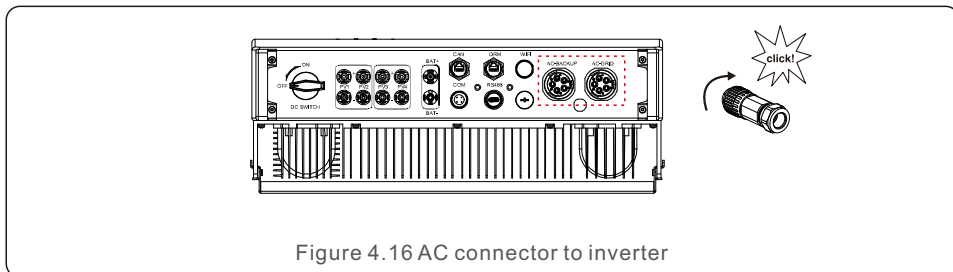

Figure 4.16 AC connector to inverter
C) Connect AC connector with inverter, then tighten AC connector for clockwise, until hearing a slight clicking sound indicates connection succeed. (see figure 4.16)